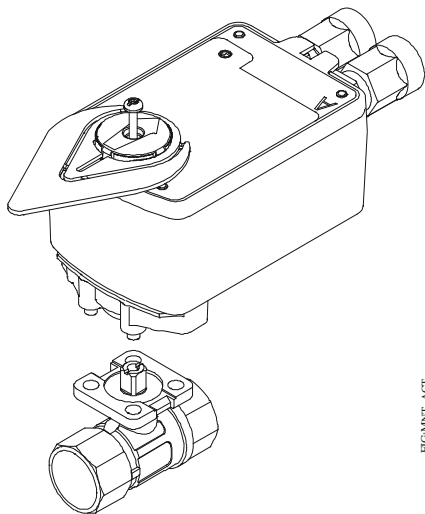

Figure 9: Mount the Actuator
7. Install the actuator on the ball valve (Figure 9). Tighten the actuator mounting screw to a torque of 10 to 12 lb·in. (1.1 to 1.4 N·m) and snap the large adjustable pointer into place.